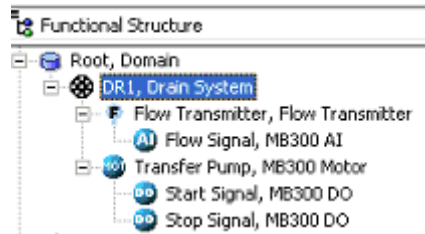

Figure 311. Instance of Drain System in the Functional Structure
4. We can now create an instance of the Drain System type in the Functional Structure, see Figure 311.